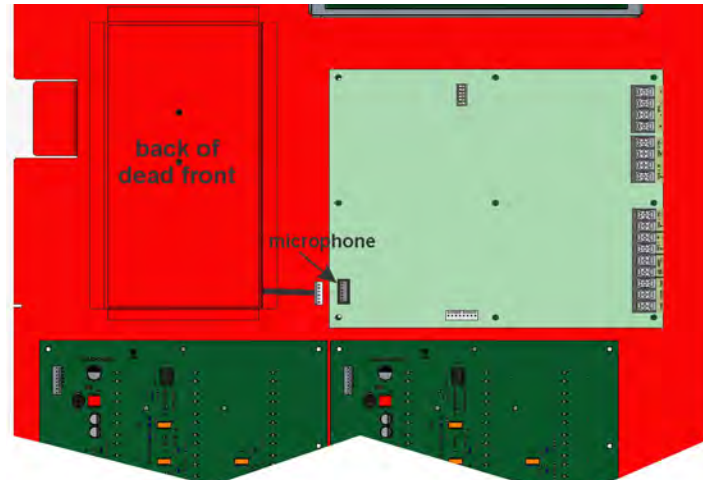

Figure 4.8 Microphone Cord Inserted Through Dead Front Panel Hole
2. Insert microphone cord through hole at the bottom of the dead front panel. See Figure 4.8.